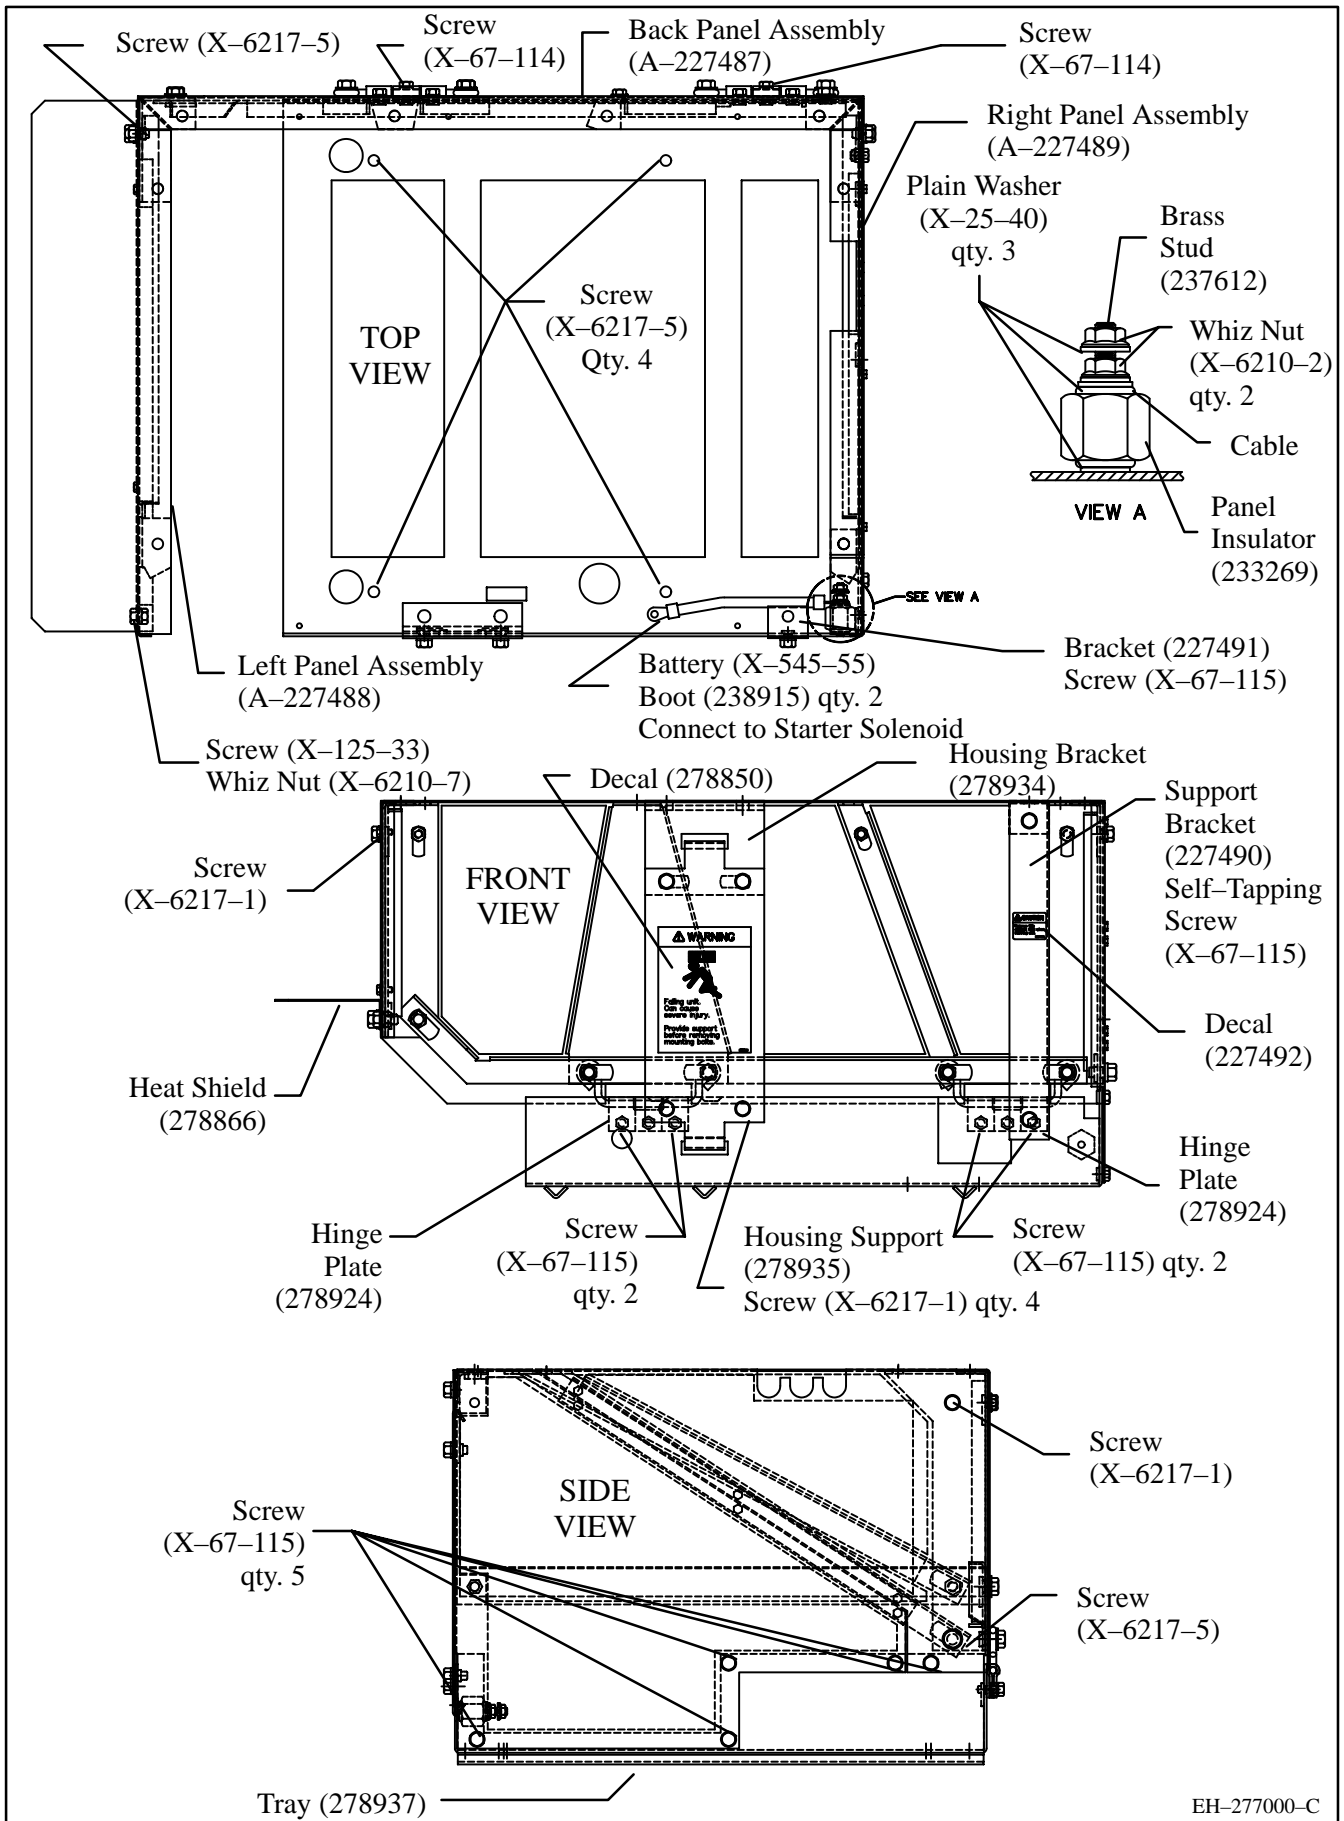

Figure 2. Installation Drawing
When assembling components together, work hardware through mounting holes from outer to inner surface of enclosure. Use Figure 2 for proper positions.
5. Install plain washer (X-25-40) over pem stud (pem stud is mounted in the tray #278937) at location shown in Figure 2. Install the panel insulator (233269) onto pem stud. Install brass stud (237612) into the other end of the panel insulator. Connect battery cable (X-545-55) to the brass stud. Next, install in the following order: plain washer (X-25-40), whiz nut (X-6210-2), plain washer (X-25-40), and whiz nut (X-6210-2). Attach boot (238915) over assembly. See Figure 2, View A.
11. Mount brackets (278934) and (277491) to motor home at locations shown in Figure 2.
14. Affix decals (278850 and 227492) as shown in Figure 2.